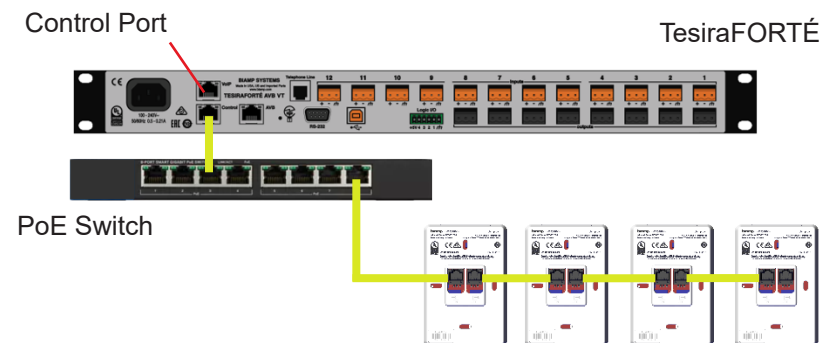

Figure 8. Basic Network Layout
3. The buttons and rotary knob may be configured via the Control Pad Designer in the Tesira software. There are many configuration possibilities. The Control Pad Designer allows for customizing the interface to match the physical device color as well button color, text, etc. Examples of color and layout are shown in Figures 8 and 9.